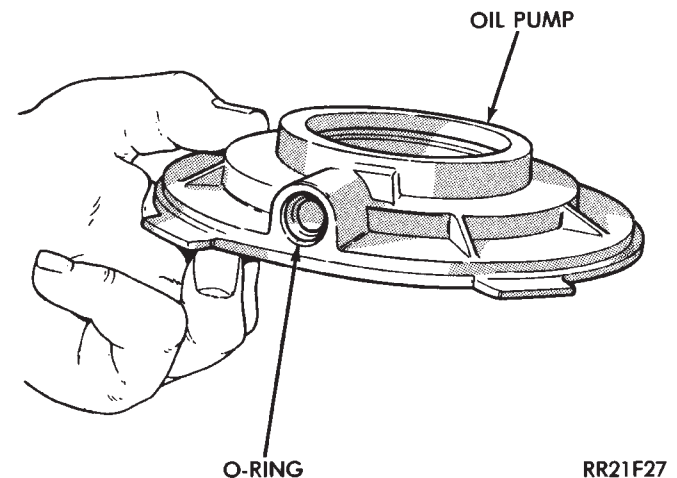

Fig. 59 Pickup Tube O-Ring Installation
(43) Install new pickup tube O-ring in oil pump (Fig. 59).